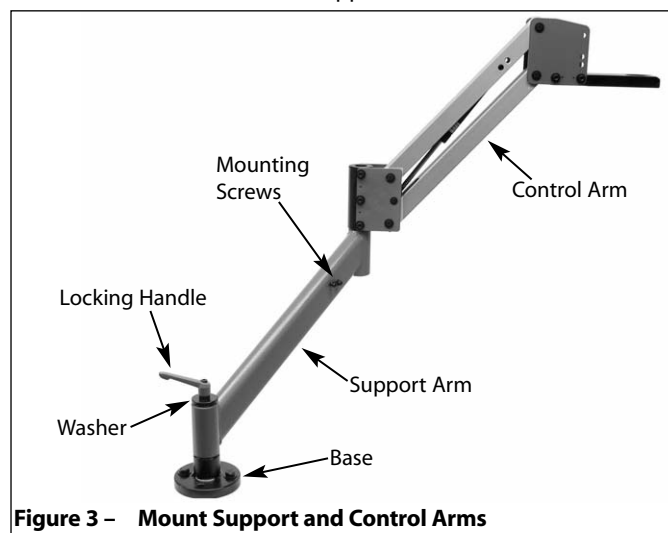

Figure 3 – Mount Support and Control Arms
Refer to Figure 3.
- Slide support arm over base. Make sure lubrication unit mounting screws are away from the base (see Figure 3).